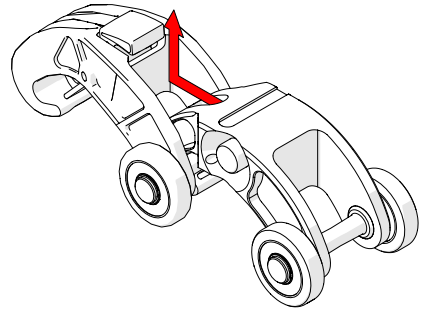

Fig. 51 - Slide link forward and lift
2. While pressing the button, slide the dovetail QuickLink forward and up, clearing the hook of the dovetail QuickLink from the 2nd QuickLink's axle (*Fig. 51*).